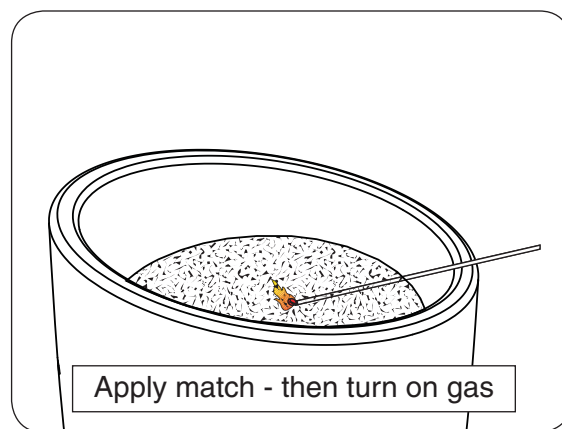

Fig. 23-1
3. Lay a lighted match on the surface of the decorative media near the burner (**do not hold the match in your hand**) (Fig. 23-1).